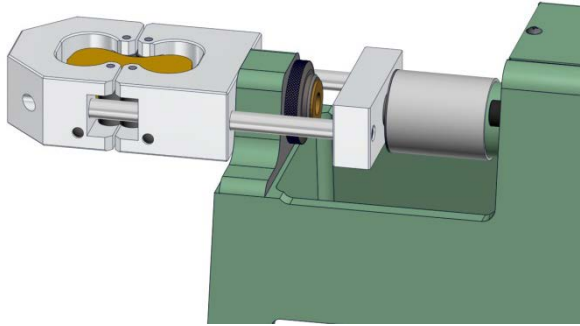

Figure 5.5.4
5. Toggle and hold the Motor Start Switch (Item 4, Figure 7.4) to the left to begin the specimen loading process. Continue to load the specimen until it breaks. (See Figure 5.5.4).